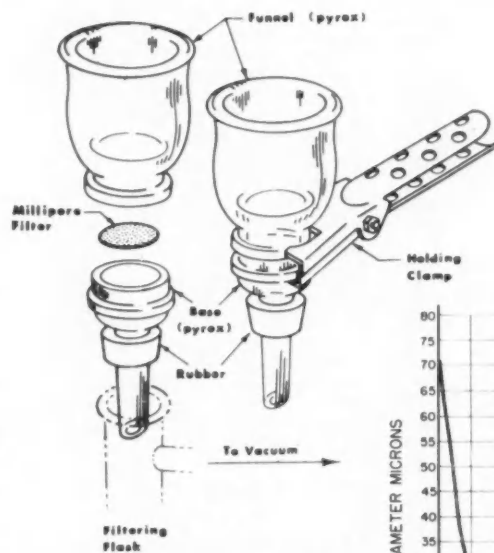

Fig. 1 — Diagram of effluent filtration setup for rating filters by pore size in microns.
2. The weighed sample is mounted on a suction funnel setup (Fig. 1) and a dispersion of 0.12 g of glass beads with a known size distribution in one liter of benzene is filtered through the disc. Care is taken to keep the glass beads in suspension during the transfer and that all the glass beads are transferred to the test disc surface. Approximately 5 in. Hg vacuum is used as suction pressure.